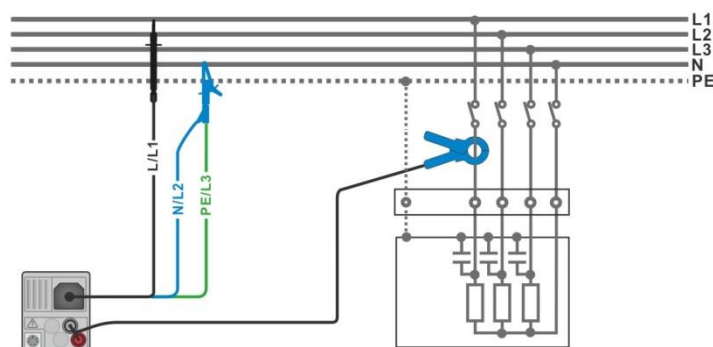

Figure 7.62: Harmonics measurement
- › Connect the voltage test leads and current clamp to the item to be tested, see **Figure 7.62**.